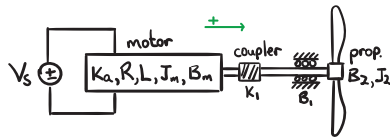

Figure 4.22. Sketch of a motor coupled to a fan.
2. The electromechanical system of figure 4.22 with motor model parameters shown, coordinate arrow in green. Model the propeller as a moment of inertia  $J_2$  and damping  $B_2$ .